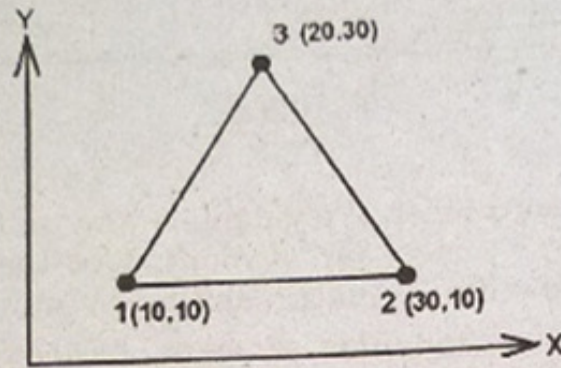

Fig.13(b)(ii)
Assuming a typical element is of dimensions as shown in fig.13(b)(ii). Determine the strain displacement matrix and constitutive matrix. $E = 200 \text{ GPa}$, $\mu = 0.3$, $t = 10 \text{ mm}$. (8)